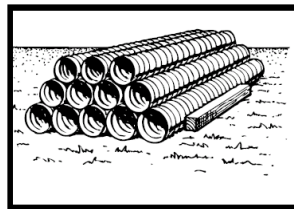

Fig 1
- Stockpiling shall be done temporarily on a Flat Clear Area as per Fig. 1 & 2.